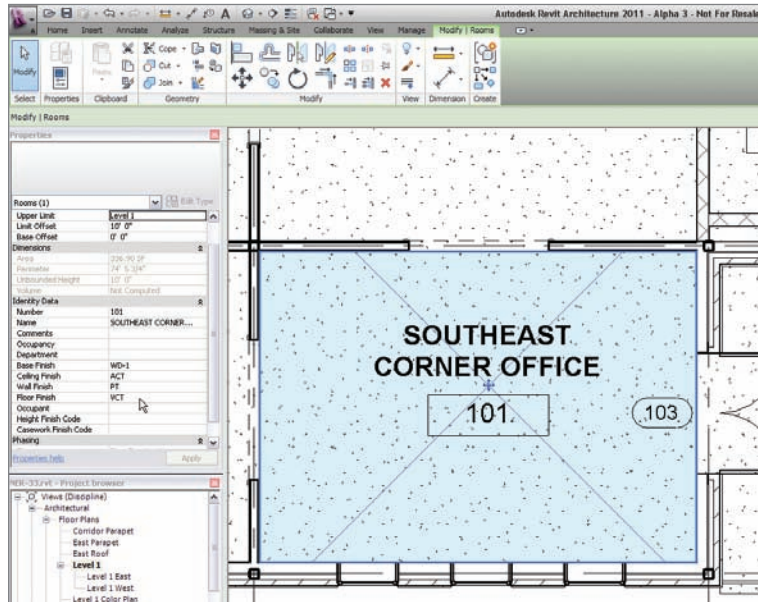

FIGURE 15.10 Adding values to the identity data
4. In the Properties dialog, scroll down to the Identity Data group, as shown in Figure 15.10.
8. Add VCT to Floor Finish (see Figure 15.10).